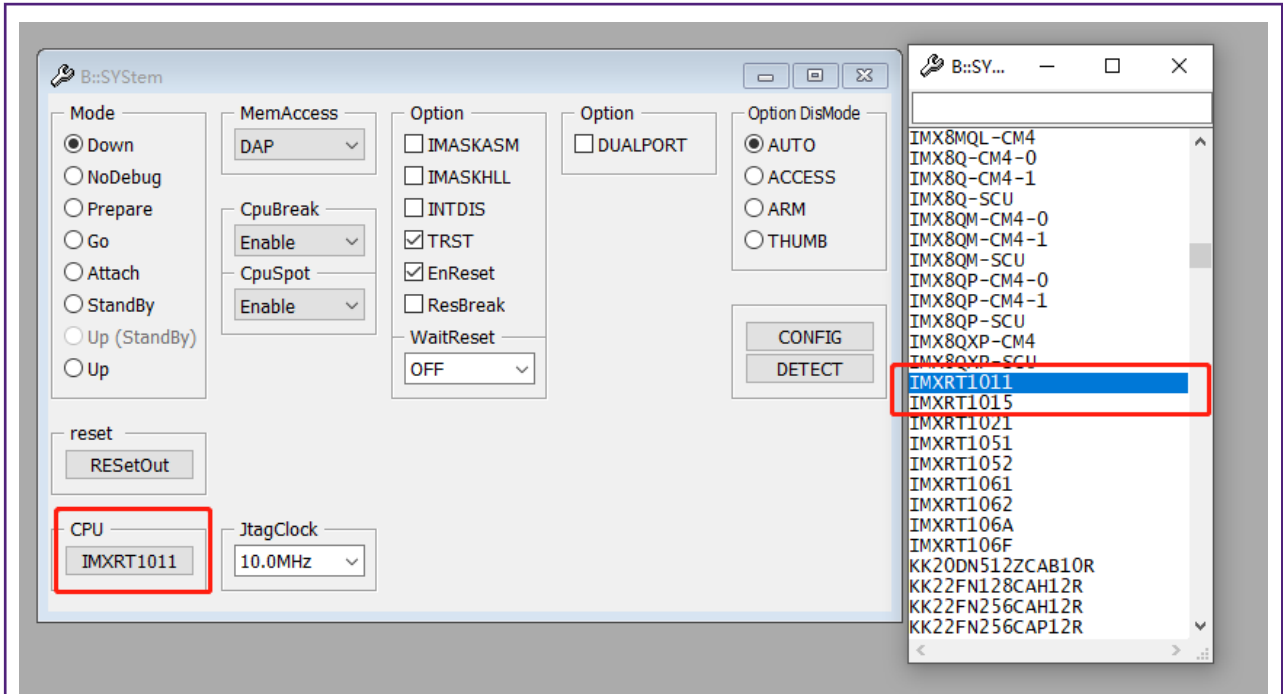

Figure 5. Selecting CPU type
- Select **CPU->System settings** and then click **CPU** to select the CPU type, as shown in Figure 5.